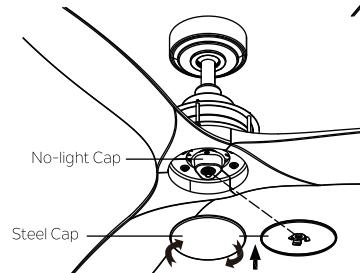

Fig. 20
**Step 3.** Assemble the steel cap to the no-light cap by twisting in a clockwise direction. (Fig.20 )